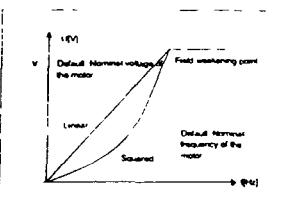

Figure 2.4.1 Linear and squared V/f curves
- Linear: The voltage of the motor changes linearly with the frequency in the constant flux area from 0 Hz to the field weakening point (par. 6.3) where a constant voltage (nominal value) is supplied to the motor. See figure 2.4-1
1 The voltage of the motor changes following a squared curve form with the frequency in the area from 0 Hz to the field weakening point (par 6.3) where the nominal maximum voltage is supplied to the motor. See figure 2.4.1